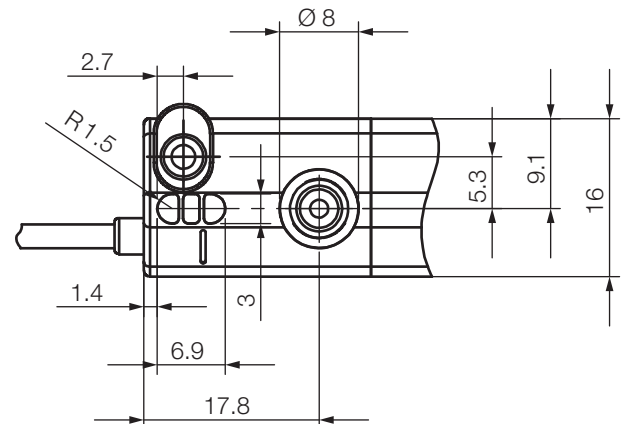

Fig. 4-13: Dimensions and distances of the button and LEDs
**i** For inverse mounting, a recess for the button and the LEDs must be provided (for dimensions, see Fig. 4-13); otherwise, the BMP can only be configured via IO-Link.